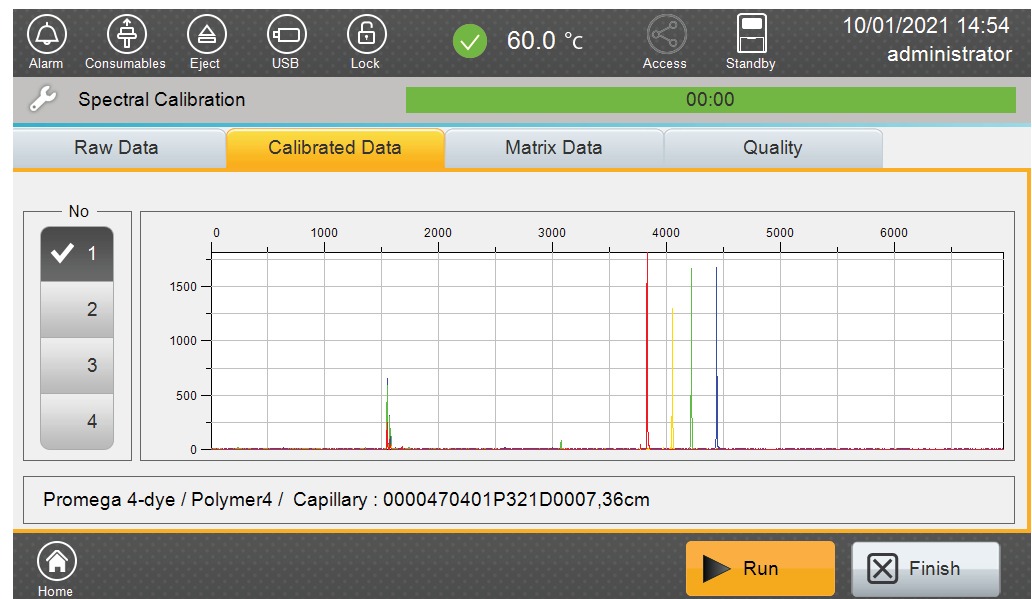

Figure 53. Spectral Calibration 'Calibrated Data' tab screen.
2. The 'Calibrated Data' tab can be used to view the matrix peaks with both baseline and spectral applied for each capillary (Figure 53).